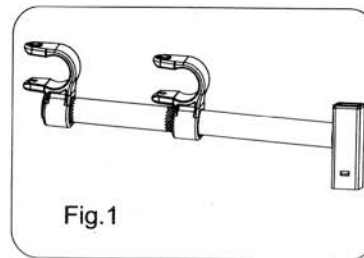

Fig.1
1. Make sure the seat fixed plastic part on the same direction before assembly the seat bar on the trolley frame as Fig.1